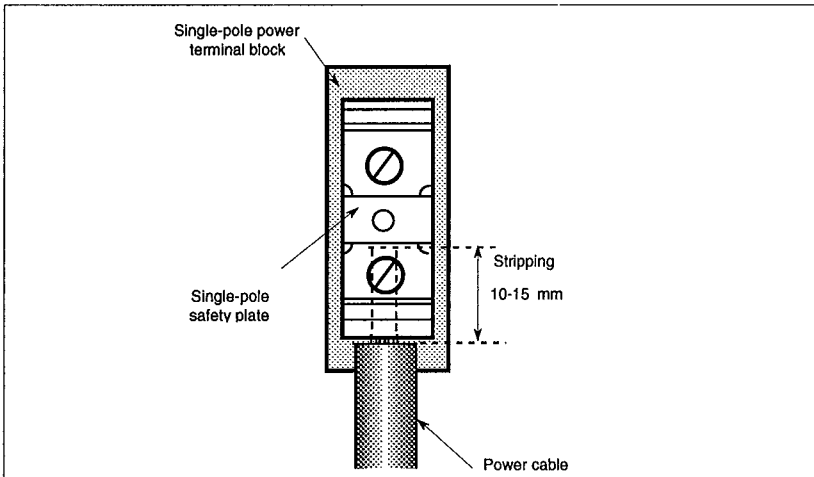

Figure 3-2 TU1470 thyristor unit power wiring
- remove the single-pole safety plates on the power terminal block at the bottom of the thyristor unit (see figure 3-2)